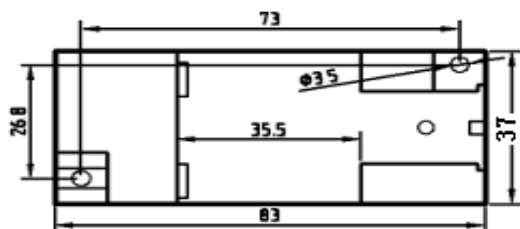

Figure 9, installation dimension
- ③ Clip the transducer mount on the mounting rail;
- ④ Release the spring pin and clip the transmitter on the mounting rail.
- ① M3 screw hole in the fixed plate according to the screw hole position shown in Figure 9;
- ② Use the M3 screw to insert into hole and fix it.